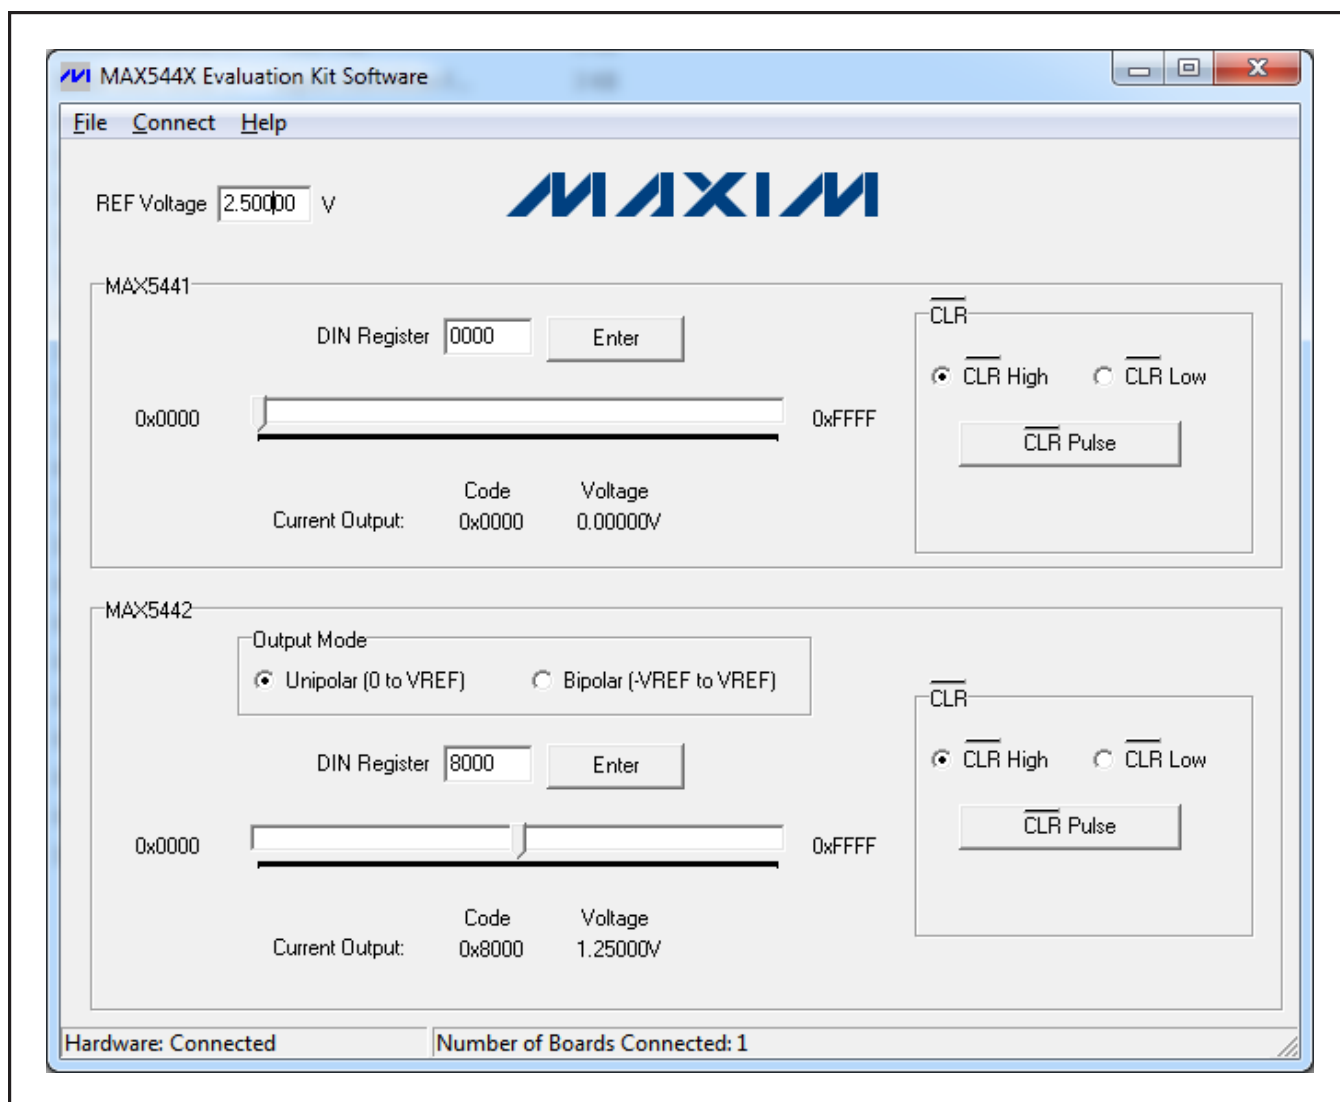

Figure 1. MAX544X Evaluation Kit Software (Main Window)
- 6) Start the EV kit software by opening its icon in the **Start | Programs** menu. The EV kit software main window appears, as shown in Figure 1.
In the main window of the evaluation software (Figure 1), the user can type in the reference voltage in the **REF Voltage** edit box. The software then calculates the DAC output voltages based on the reference voltage and the DAC input register value.